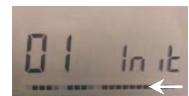

Fig. 3
5. If the RF thermostat has been assigned correctly to the zone/s, deactivate the RF initialization of the thermostat (switch it off). During the thermostat RF transmission you can see on the display 1 line of squares running. (see Fig. 3)